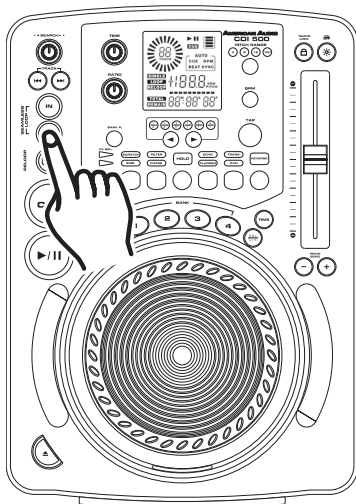

Figure 25
- 4) The yellow **MEMORY BUTTON (16)** LED will turn off, when your sample is locked into memory.
- 5) At this point your sample has been stored into memory. The original loop you used to create the sample will remain playing until the **OUT BUTTON (24)** is pressed (Figure 25).
- 6) Your sample can now be recalled at any time even when the unit is in **PAUSE MODE**. To recall the sample be sure the sample function is on, by pressing the **SAMPLE BUTTON (18)**. The yellow sample button LED will turn on. To play your sample in a continuous loop leave the sample function on. To play your sample just once, turn the sample function off immediately after initiating your sample. With the sample function on the sample will continue to play until the sample function is turned off.